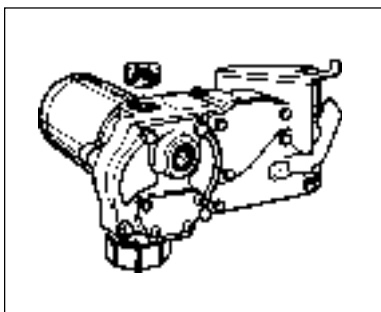

Figure 8
2. Using a drive ratchet or extension, remove the pipe plug from the top outlet port. (Figure 8)